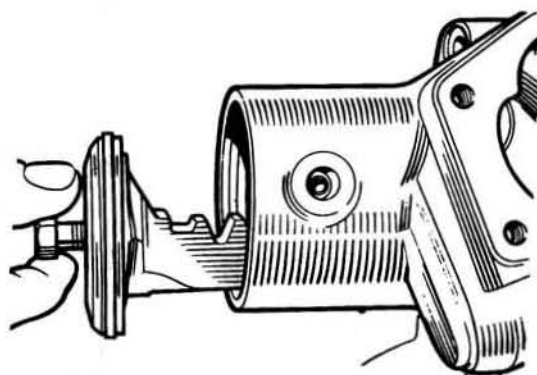

Fig.11.47. Using a bolt to withdraw the piston and rack assembly
14 Screw a long 1/2 inch UNC bolt into the tapped hole in the centre of the piston and rack (14) and withdraw the assembly through the open end of the cylinder (Fig.11.47).